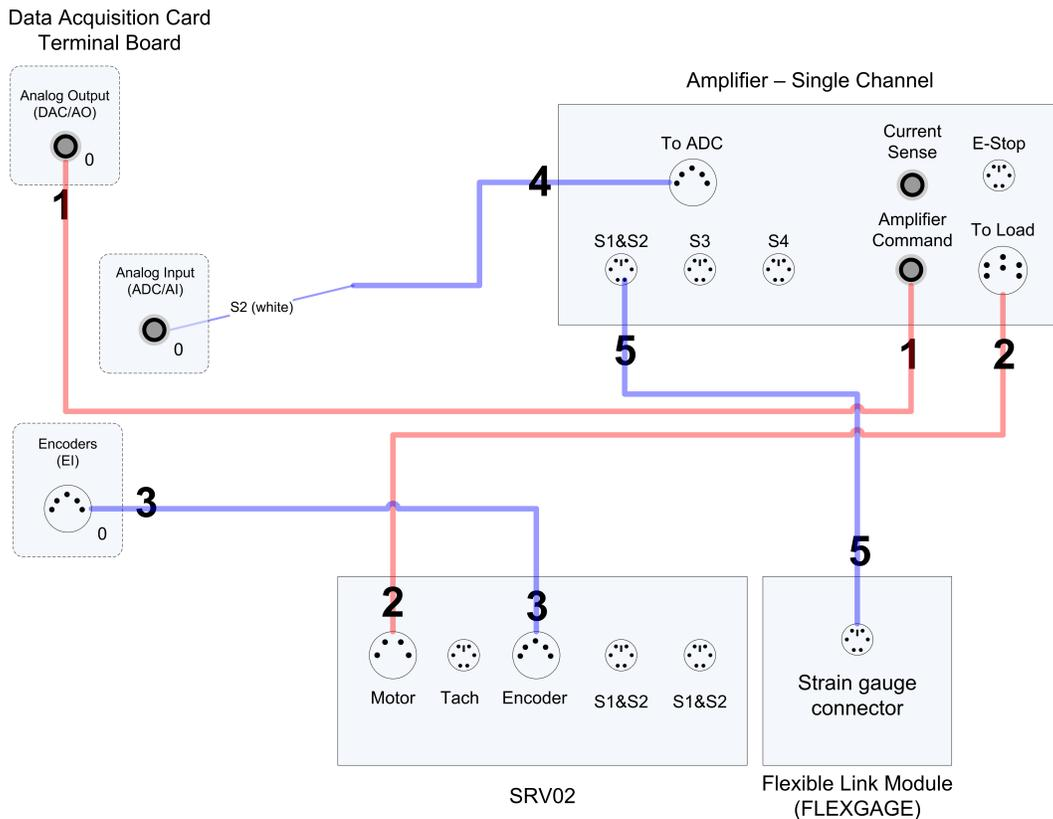

Figure 4.2: SRV02 Flexible Link Typical Wiring Diagram
This section describes the typical connections used to connect the flexible link plant to a data-acquisition board and a power amplifier. The connections are summarized in Table 4.2 and illustrated in Figure 4.2. The wiring procedure details are given below. It is assumed that the data acquisition board has already been installed and tested.
1. Connect one end of the 2xRCA to 2xRCA cable from the *Analog Output Channel #0* on the terminal board to the *Amplifier Command* connector on the amplifier, ie. Use both white or both red RCA connector. This connection carries the attenuated motor voltage control signal, V_m/K_a where K_a is the amplifier gain. This is shown by connection #1 in Figure 4.2.
2. Connect the 4-PIN-stereo-DIN to 6-pin-stereo-DIN cable from the *To Load* connector on the amplifier to the *Motor* connector on the SRV02. This connection carries the amplified voltage that is applied to the SRV02 motor. This is shown by connection #2 in Figure 4.2.
3. Connect the 5-pin-stereo-DIN to 5-pin-stereo-DIN cable from the *Encoder* connector on the SRV02 panel to *Encoder Input #0* on the DAQ device. This is connection #3 in Figure 4.2. It carries the load shaft angle measurement.
4. Connect the *To ADC* socket on the amplifier to *Analog Inputs #0* on the terminal board using the 5-pin-DIN to 4xRCA cable as illustrated by connection #4 in Figure 4.2. The strain gage signal will be routed through the white/S2 connector. Connect the white/S2 RCA cable to *Analog Input #0* on the data acquisition device.
5. Connect the strain gage connector on the FLEXGAGE module to the *S1 & S2* connector on the SRV02 panel using the 6-pin-mini-DIN to 6-pin-mini-DIN cable. This connection carries a voltage proportional to the link deflection and is shown by connection #5 in Figure 4.2.